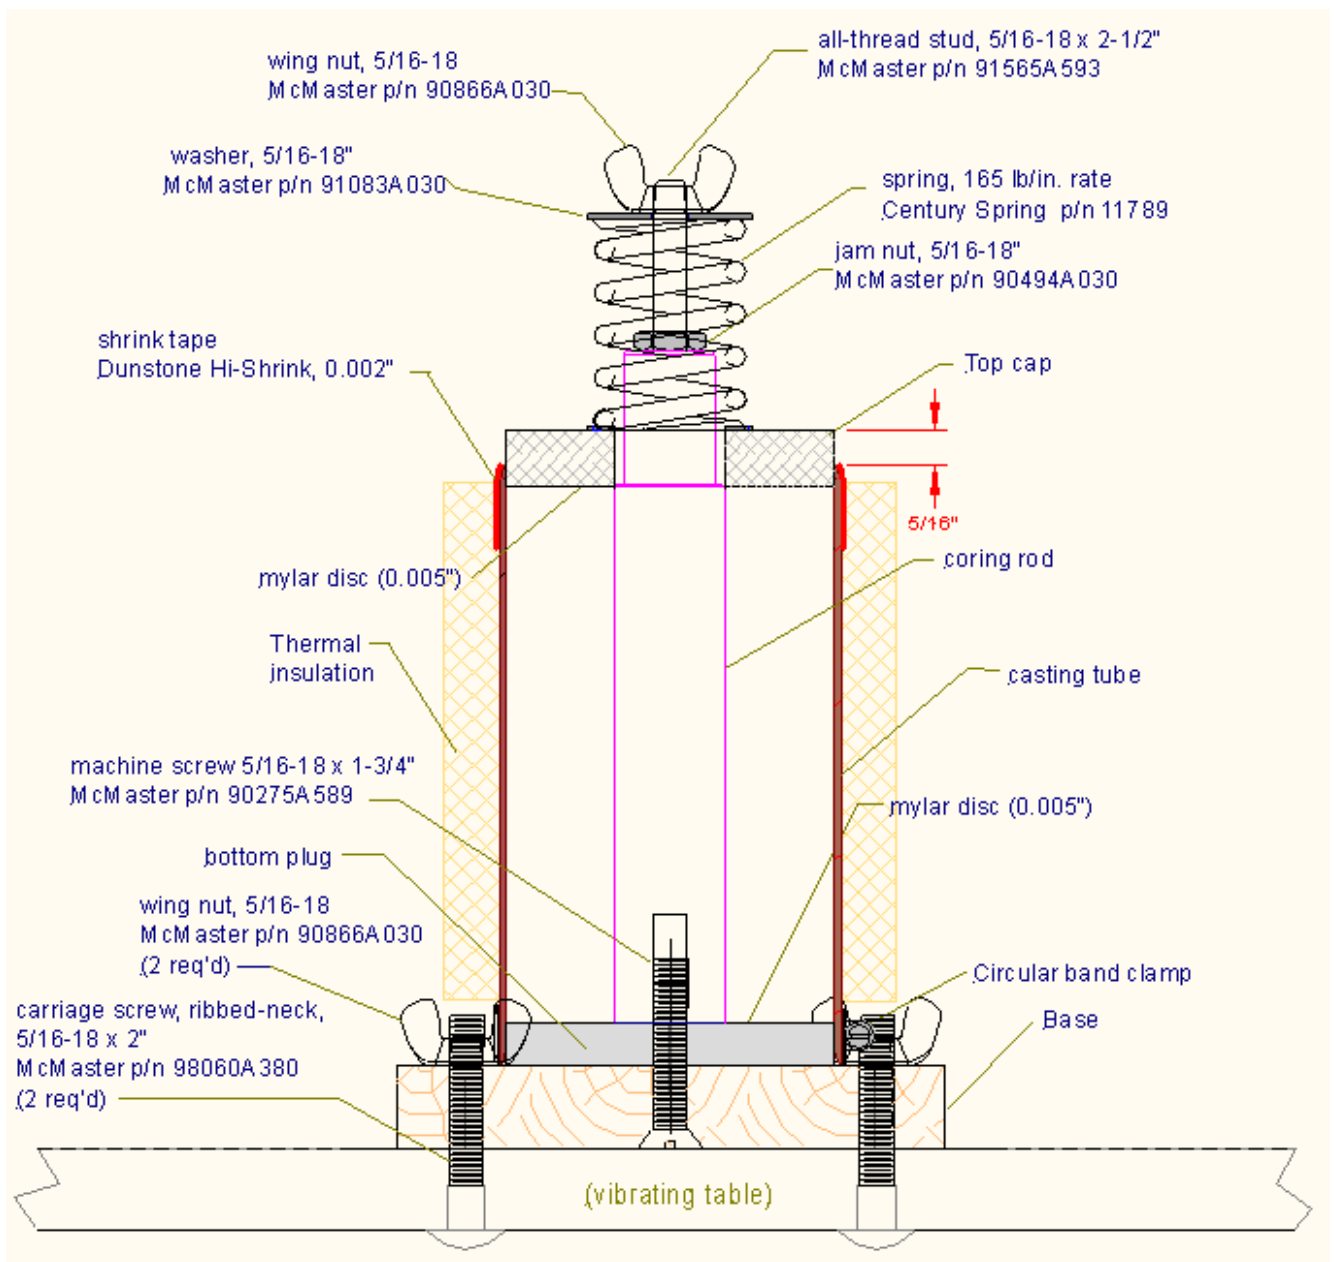

Figure 2 – Casting mould arrangement.
15. Slide Top Cap into place over coring rod and press down gently, allowing Top Cap to seat on top of propellant surface. Press down until top surface of Cap is flush with top of coring rod shoulder, as shown in Figure 2. Approximately 5/16" of the Top Cap will be above the casting tube rim.
16. As is shown in Figure 2, place steel shim, spring and spacer over coring rod. Loosely install washer and wing nut.